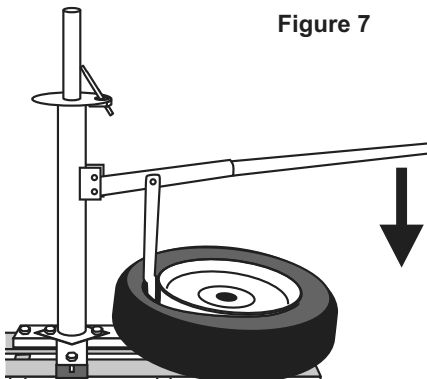

Figure 7
3. Set the Bead Breaker Shoe against the edge of tire rim. See Figure 7, below.
4. Insert Mounting/Demounting Bar into Bead Breaker Handle. Once inserted, push down on Bead Breaker Handle, allowing the Bead Breaker Shoe to push tire bead off of rim. See Figure 7, below.